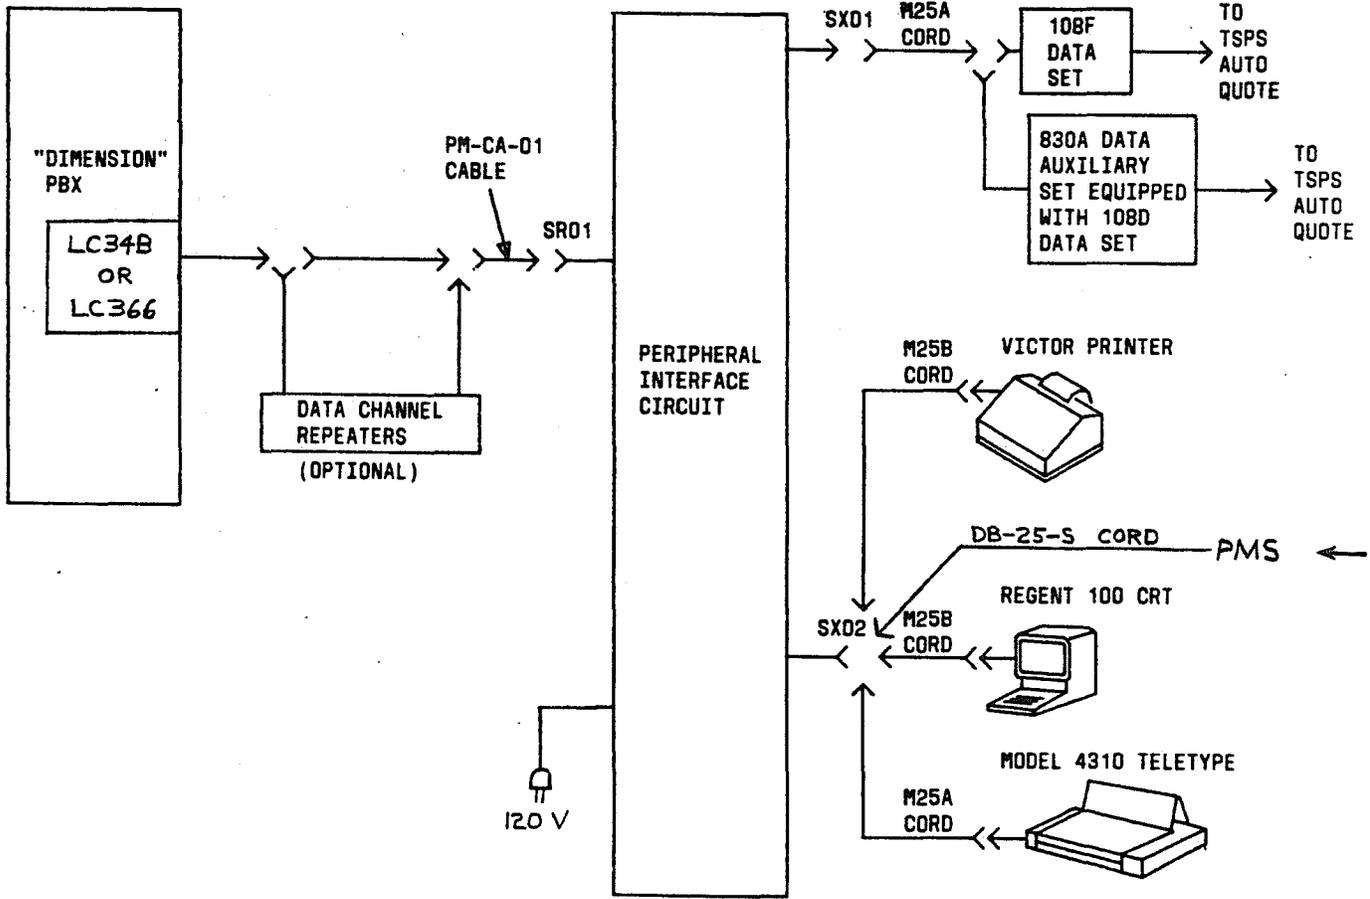

Fig. 5 - PIC Cable Connections
- 4.2.2 If the peripheral is either a printer or CRT, use the SX02 connector on back of PIC (see Fig. 5). If the peripheral is a LDB data set, use the SX01 connector on back of PIC. If the peripheral is a PMS system, use the SX02 connector.